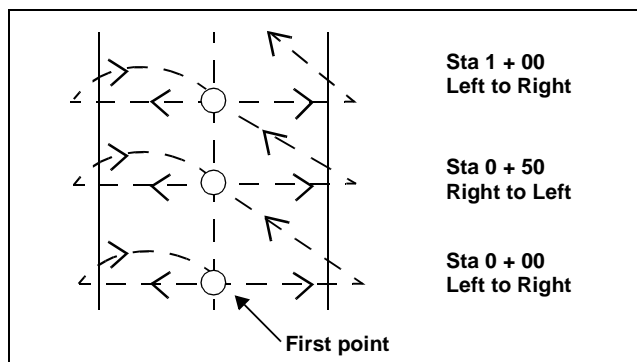

Figure 26-2: Survey cross-sections from the center line out
- surveying from the centerline outward (see Figure 26-2)